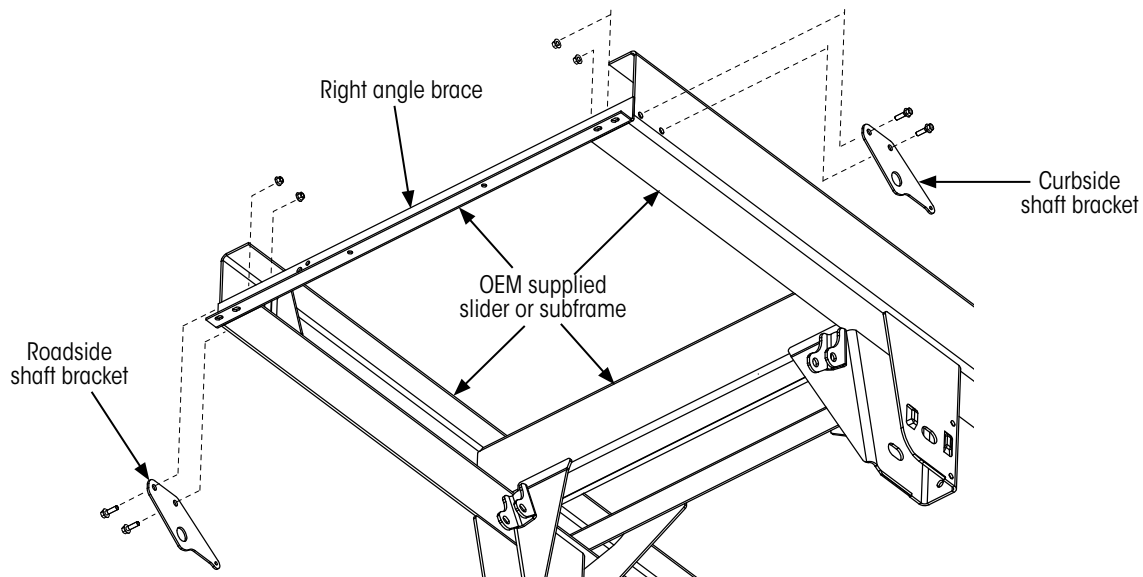

Figure 33: Shaft bracket installation to subframe
NOTE: Holes (Figure 33 and Figure 39 on page 25) must be provided for installing shaft brackets. Additionally, the right angle brace, shown, must also be provided, with holes for the air spring actuator installation.
2. **Install** roadside and curbside brackets (Figure 33) using 1/2-inch flange bolts provided with the kit. **Loosely install** bolts to allow brackets to move freely during the next step.